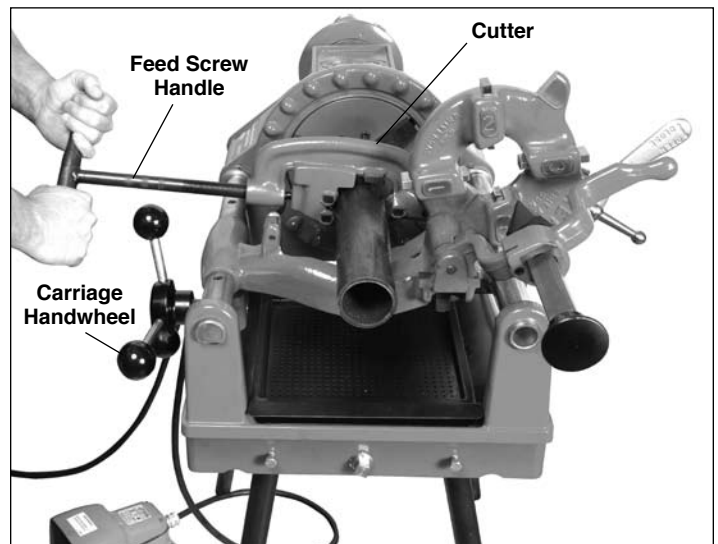

Figure 2 - Cutting pipe with cutter
2. Move pipe cutter down onto pipe and move carriage with carriage handwheel to line up cutter wheel with mark on pipe (Figure 2).